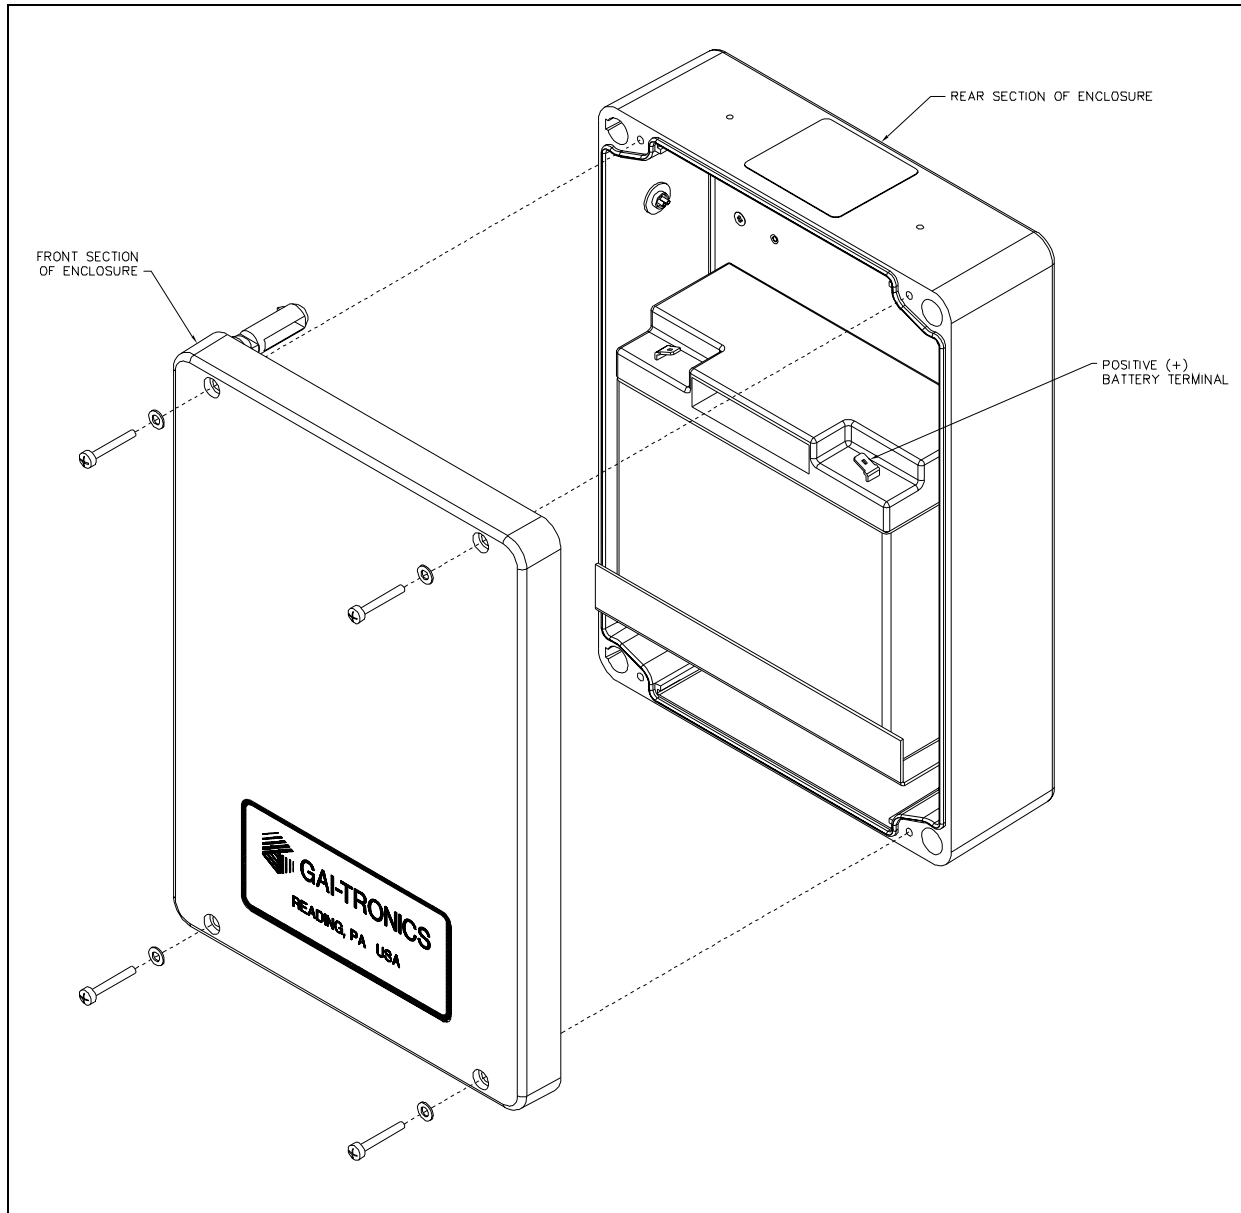

Figure 2. Exploded view of the external battery enclosure
3. Place the No. 40201-008 battery onto the mounting panel in the enclosure. Refer to Figure 2. The positive battery terminal should be on the right side when facing the enclosure.